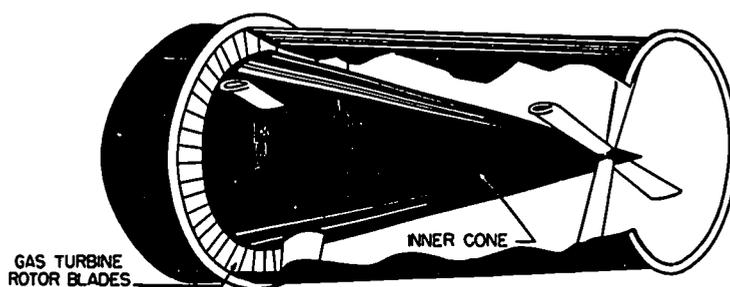

Figure 43. Exhaust Section and Tailpipe.
*Exhaust Section.*—The gases exit the turbine at temperatures of about 1,200° F. and speeds of about 1,200 feet per second and enter the exhaust nozzle. This nozzle has an inner cone, supported by struts. Together, the nozzle, cone, and struts straighten out the flow of the gases leaving the revolving turbine wheel, and send these gases through the tailpipe (Fig. 43).